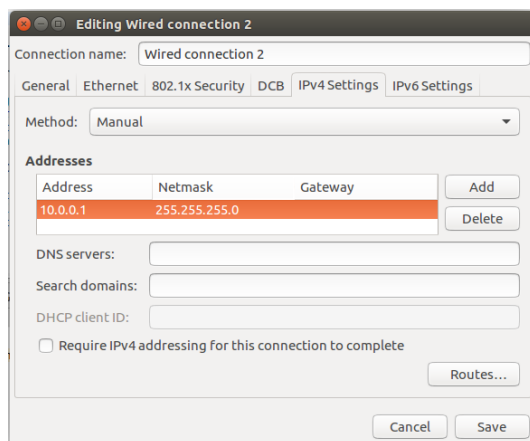

Fig. 5.12: Linux "IPv4 settings"
2. Click on the settings icon, select the IPv4 tab, configure and save as in **Fig. 5.12**.